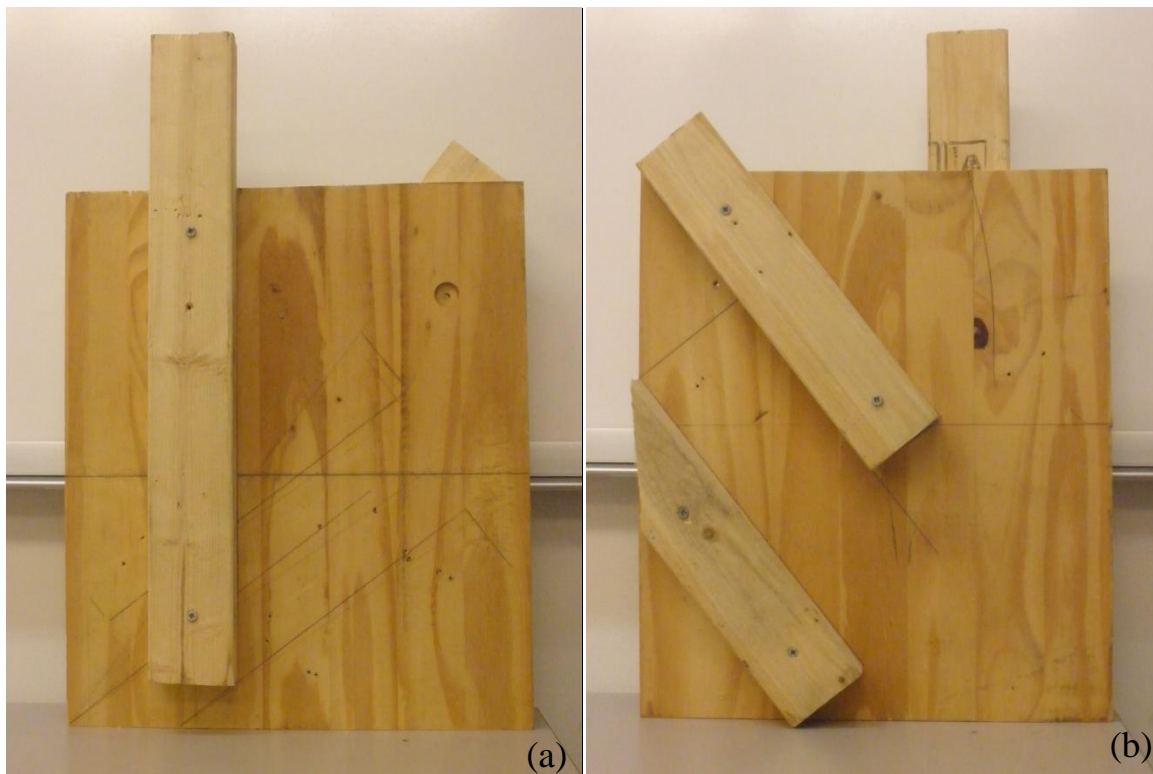

Figure 1: Cutting jig (a) underside (b) top
1. Construct cutting jig (Figure 1)